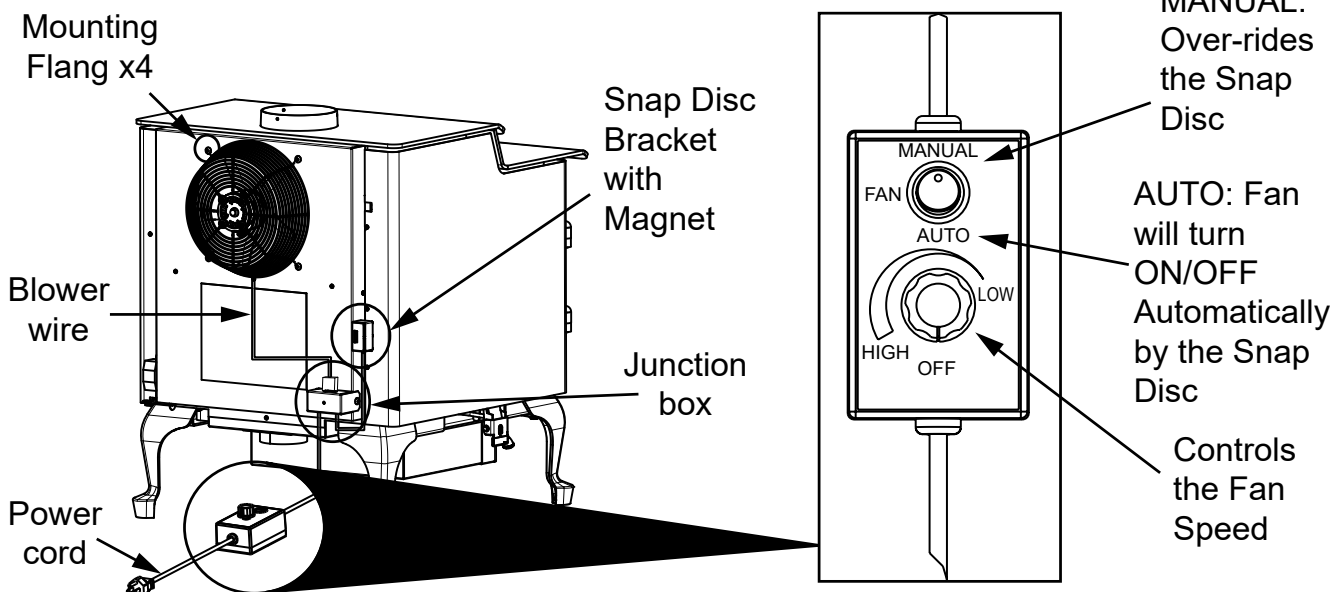

Figure 24.1
**NOTE:** Blower wire should be positioned towards the bottom as shown in **Figure 24.1**
4. Using #2 Phillips head screwdriver and 4x screws secure blower to appliance (**Figure 24.1**).
6. Install junction box to the bottom right back of the appliance shown in **Figure 24.1** by inserting tab into slot and aligning flange; secure with 1x screw by using #2 Phillips head screwdriver.
7. Place the bracket containing the snap disc and magnet lower right side of the appliance as shown in **Figure 24.1**.